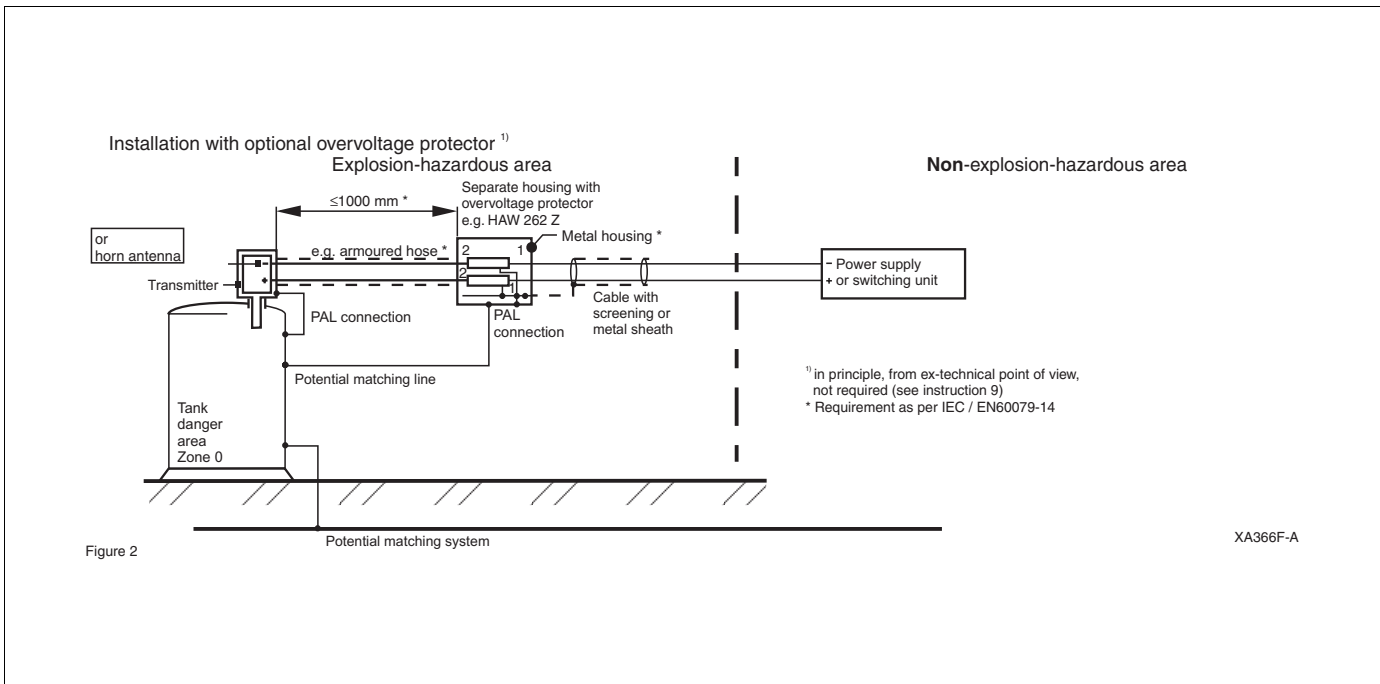

Figure 2
- 6.2 Option: overvoltage protector HAW262Z, see figure 2.